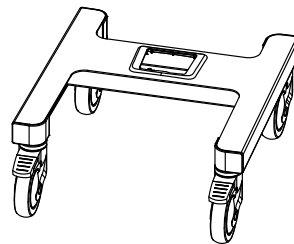

Figure 2
2. Place **BASE** with casters on the ground (**Figure 2**). Secure in place by engaging the brakes on the front casters.